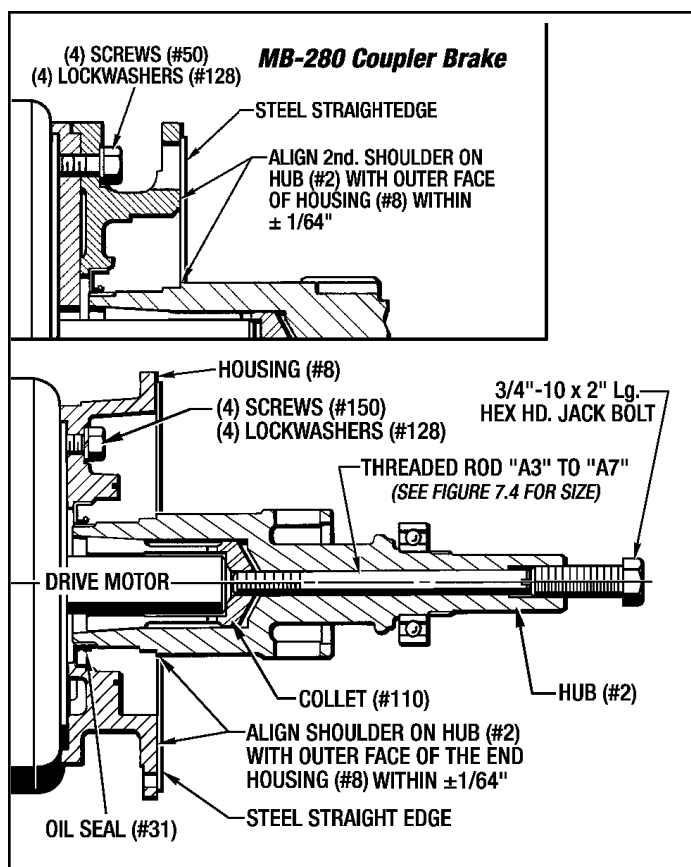

Figure 9.10 - Installing Hub (#2) on MB-250 & 280 Coupler Brake
1. Place the Collet (#110) on the motor shaft as far as it will go. (See **Figure 9.10**)
4. Using a steel straight edge, align the **2nd. Shoulder** of the Hub (#2) with the **Outer Face** of Housing (#8) within $\pm 1/64"$ as shown in **Figure 9.10**.
5. Install the correct Threaded Rod "A" into the Collet (#110) approx. 4 or 5 turns. **Hand tighten** the Jack Bolt into the end of the Hub (#2) just until it makes contact with the Threaded Rod "A". **Do not tighten any further.** (See **Figure 9.10** above.)